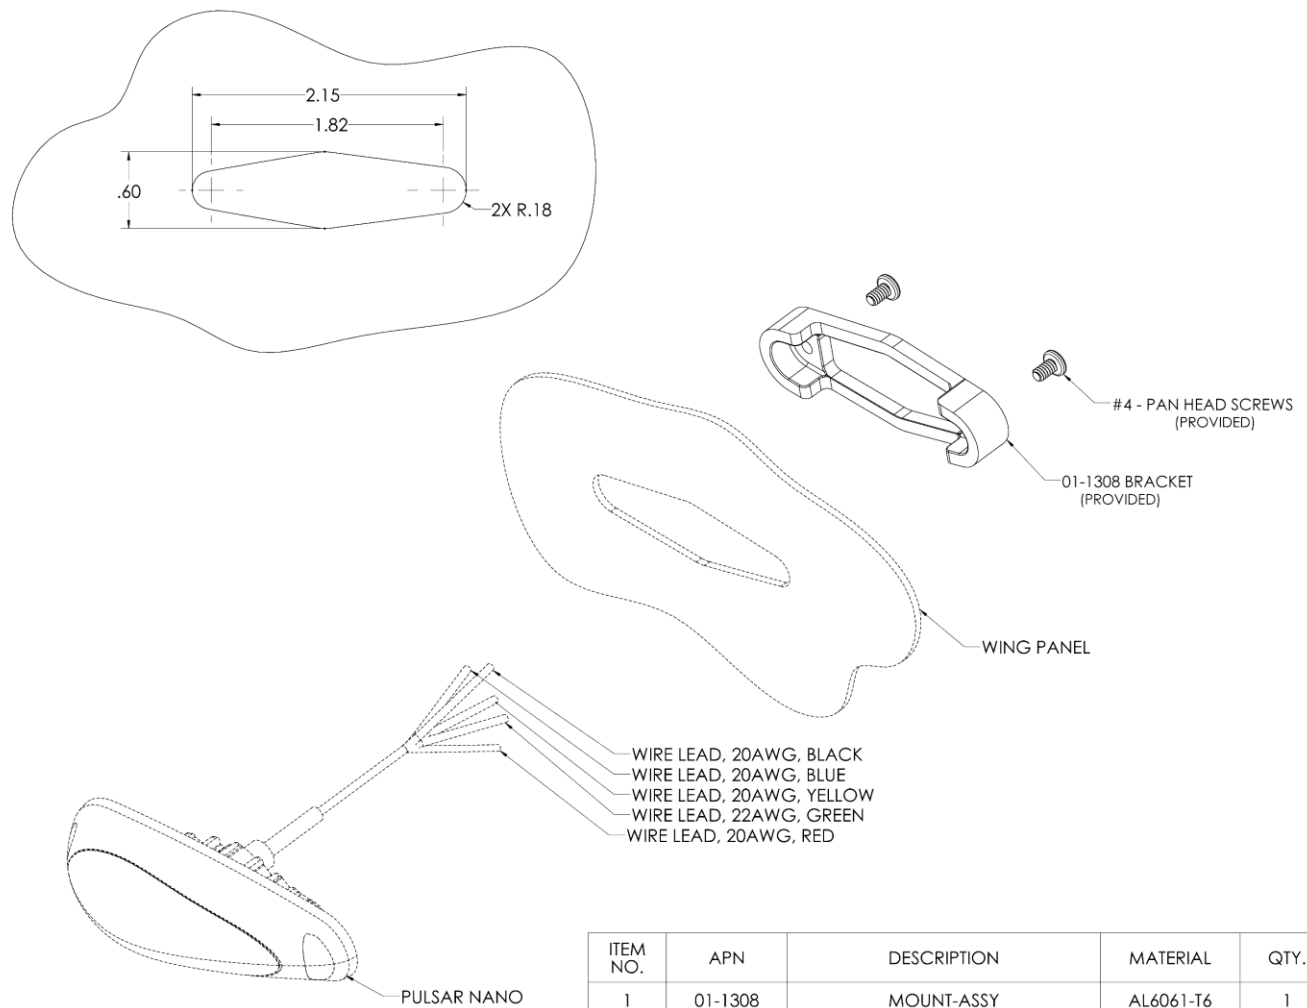

Figure 1. Nano Internal Mounting (KIT-0085) *Option 1
4. Nano lights mount with optional brackets (Ref Figure 1&2)